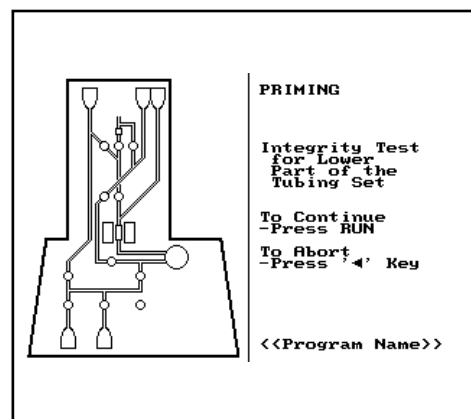

Figure 48: Screen no. 31.
3. The window will display screen no. 31 as shown in figure 48.